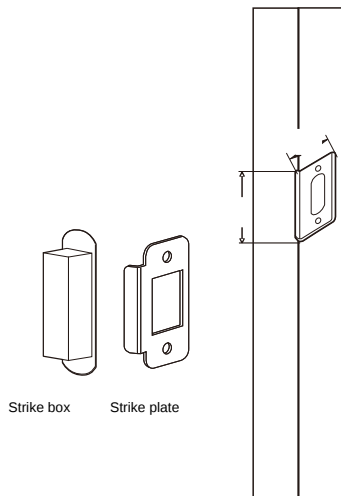
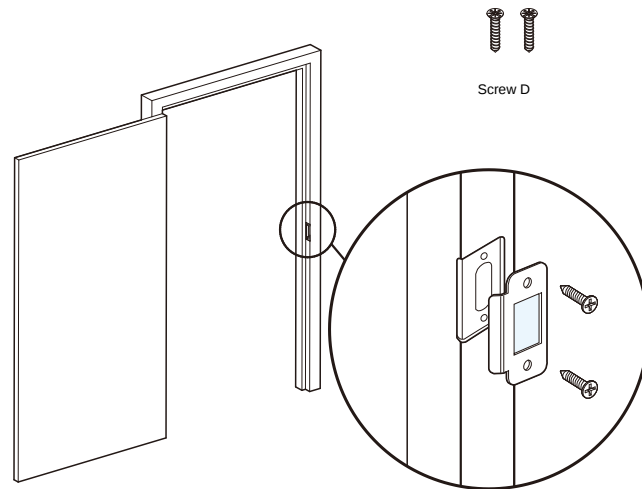

Fig. 2
Fig. 3
1. As shown in Fig. 2 and Fig. 3, drill the hole for installing the strike box. The hole depth must be 15 mm and the length 60 mm.
2. Install the strike plate as shown in Fig. 2. The width is 26 mm and the length is 60 mm.
3. As shown in Fig. 3, place the strike box into the hole, cover it with the strike plate, and tighten with screw D